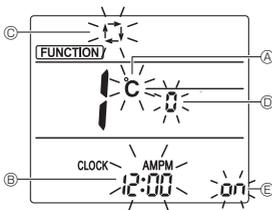

Fig. 3-2
- Press the **DOWN** button ④ to change the function No.
- Check that function No. "1" is displayed, and then press the **SET** button ③.
- The display setting screen will be displayed. (Fig. 3-2)
#### 2) Changing the temperature unit ① (Fig. 3-2)
- Press the **TEMP** button ⑤.
- Each time the **TEMP** button ⑤ is pressed, the setting switches between **C** and **F**.
#### 3) Changing the time display ⑦ (Fig. 3-2)
- Press the **TIME** button ⑥.
- Each time the **TIME** button ⑥ is pressed, the setting switches between  $12:00$  and  $24:00$ .
#### 4) Changing the AUTO mode ⑧ (Fig. 3-2)
- Press the **MODE** button ⑦.
- Each time the **MODE** button ⑦ is pressed, the setting switches between  $\square$  and  $\square$ .
#### 5) Changing the pair No. ⑨ (Fig. 3-2)
- Press the **DOWN** button ④.
- Each time the **DOWN** button ④ is pressed, the pair No. 0-3 changes.
#### 6) Changing the backlight setting ⑺ (Fig. 3-2)